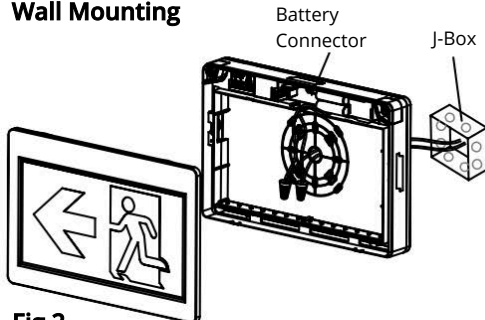

Fig.2
2. Knockout appropriate mount screw hole and cable hole, mount back plate on the wall after feed building AC supply cable into back plate (see Fig.2 below for more details)
3. For ceiling and side mounting purpose, remove the mounting hole cover on the top or side of the unit (see Fig.2,3,4), assemble the canopy on the unit (see Canopy Assembly diagram on page 1 of this instruction manual)